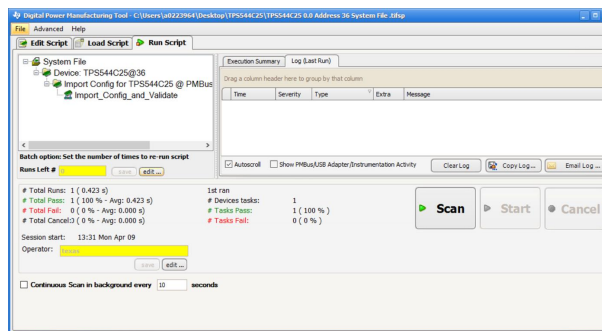

Figure 45. Scanning For Devices
3. After the Run Script tab appears, click the Scan button (shown in Figure 45).